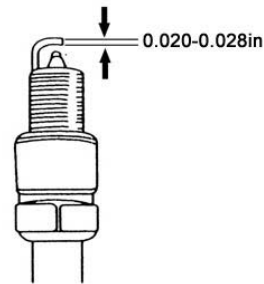

Figure 17 – Spark Plug Gap
4. Measure the spark plug electrode gap with a gauge. The gap should be 0.020-0.028 inch. (Figure17.)